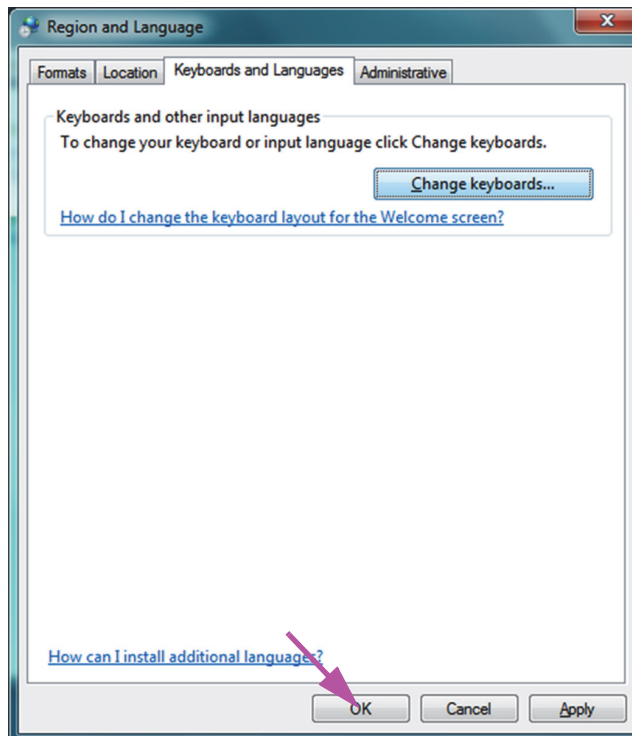

Figure C-7. Region and Language Screen—Keyboards and Languages Tab
8. Return to the Keyboards and Languages tab (see Figure C-7) and click the **OK** button to complete the keyboard language change.